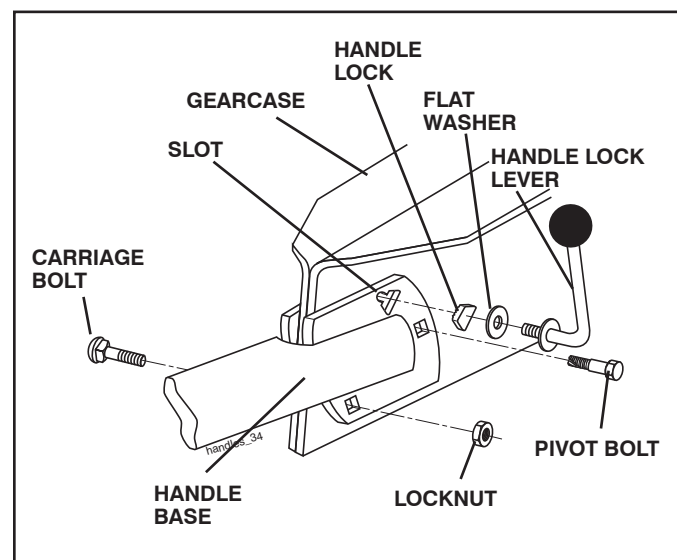

FIG. 5
- Rotate handle assembly down. Insert rear carriage bolt first, with bolt head on L.H. side of tiller and loosely assemble locknut (See Fig. 5).